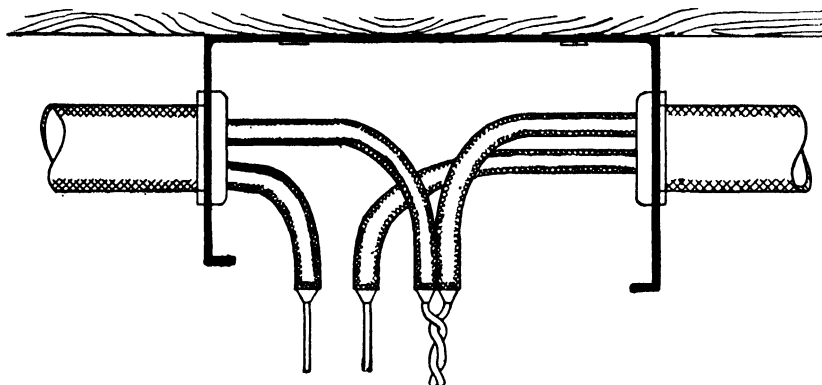

Fig. 55. Pigtail Splice, Showing One Pair of Wires Spliced and One Pair Ready to Splice
*Pigtail Splice.* In making a pigtail splice, Fig. 55, bend at right angles to the outlet the two or more conductors to be joined. Hold the insulated end of the wires with the left hand, cross the bare conductors about 1 inch below the insulation, and twist with pliers until secured. This splice is convenient for joints in junction and outlet boxes. A small ladle containing hot solder, into which the end of the joint may be dipped, is preferable to either torch or soldering iron. The twisted wires should be held in the hot solder until they have a silvery appearance caused by a thin coating of solder sticking to them.